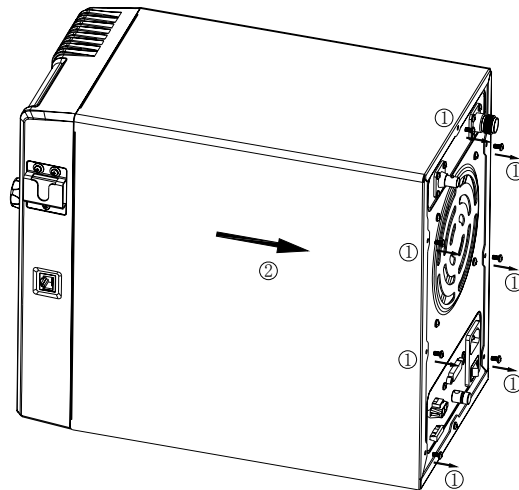

Figure 1
1. using a screwdriver to Remove the seven screws (M3.0X6.0) ① that locking the top cover of repeater, shown as Figure 1.
2. Remove the top cover ②, shown as Figure 1.